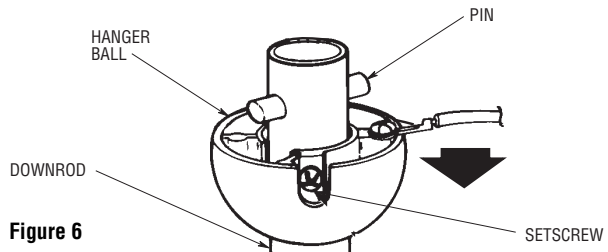

Figure 6
- 8. Remove the hanger ball by loosening the setscrew in the hanger ball until the ball falls freely down the downrod (Figure 6). Remove the pin from the downrod, then remove the hanger ball. Retain the pin and hanger ball for reinstallation in Step 9.